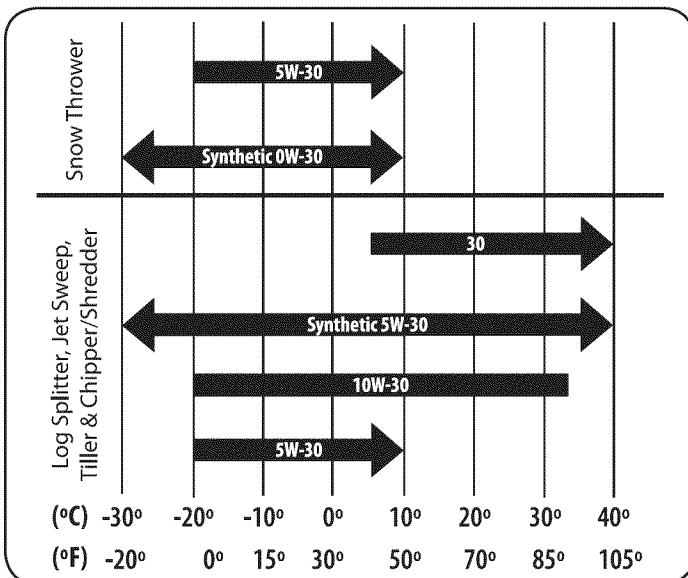

Figure 21
Refer to the viscosity chart (Figure 21) for oil recommendations. Do not over-fill. Use a 4-stroke, or an equivalent high detergent, premium quality motor oil certified to meet or exceed U.S. automobile manufacturer's requirements for service classification of a minimum level SF or SG (higher letter ratings are acceptable such as SJ, SL and SM grades). Motor oil will display this designation on the container.
11. Fill with the recommended Oil. See Figure 21.